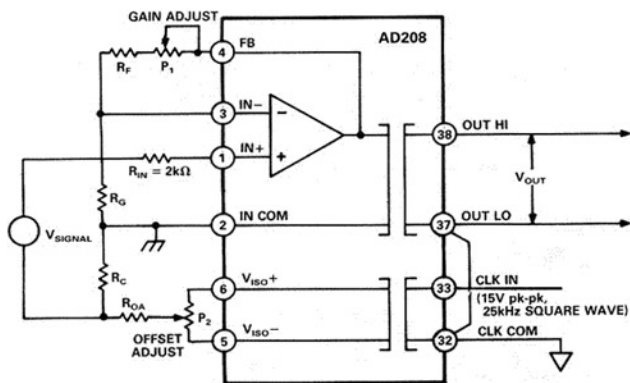

Figure 34. Input Adjustment Circuit for the Noninverting Mode of Operation
Offset Adjustment. Figure 34 shows the suggested input adjustment connections when the isolator's input amplifier is configured for the noninverting mode of operation. The offset adjustment circuit injects a small voltage in series with the low side of the signal source. The adjustment potentiometer P_2 is responsible for nulling out the offset voltage. A $100\text{ k}\Omega$ P_2 , $50\text{ k}\Omega$ R_{OA} and a $100\ \Omega$ R_C should provide an offset adjustment range (Referred to Input) of about $\pm 15\text{ mV}$. Since the offset is zeroed out ahead of the gain, the values given above for P_2 , R_{OA} and R_C should work for any gain on the isolator.
- To minimize CMR degradation it is recommended that the gain-setting resistor R_F (shown in Figure 34) be below a few hundred
- The offset adjustment circuit of Figure 34 will not work if the signal source has another current path to input common, or if current flows in the signal source LO lead. If this is the case, use the output adjustment procedure.
Gain Adjustment. Figure 34 also shows the suggested gain adjustment circuit. Note that the gain adjustment potentiometer P_1 is incorporated into the gain-setting resistor network at the isolator's input.